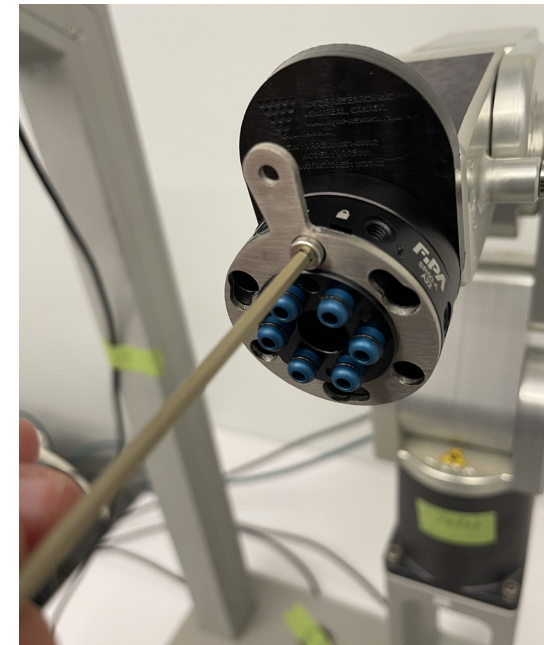

Fig. 3-14
2. Remove the screws from the fixed universal joint (see Fig. 3-14).